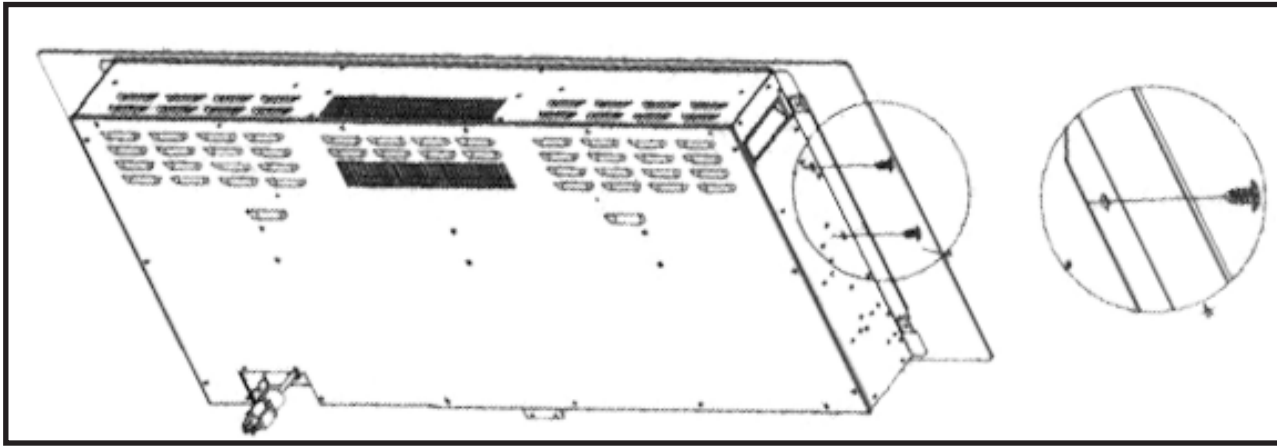

Fig. 5
- Fasten two pieces of white screws of both sides. See Fig. 5